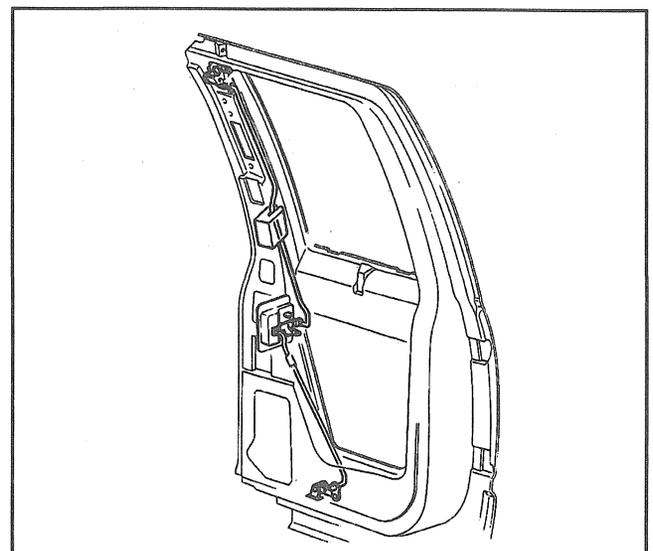

Figure 47—Rear Access Door Linkage.
**Remove or Disconnect (Figures 47 and 48)**
1. Rod from handle assembly (Figure 47).
**Install or Connect (Figures 47 and 48)**
2. Upper rod retainer (Figure 47).
Remove or Disconnect (Figures 47 and 48)
Install or Connect (Figures 47 and 48)
1. Rod to lower latch assembly (Figure 47).